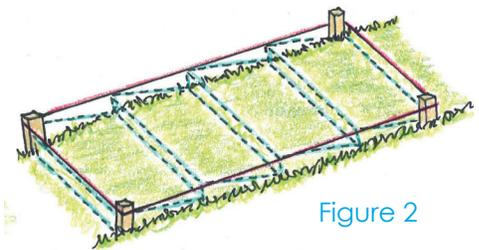

Figure 2
STEP 1. Stake perimeter. Stake out the perimeter of the stairway by driving a stake into the ground at each corner of the stairway and stretching string between them (Figure 2).
STEP 2. Mark areas to be excavated. Determine the areas that need to be excavated for each step. Using a measuring tape and starting from the string at the bottom of the slope, measure and mark the depth of the each step until you reach the string at the top of the slope. Use spray paint, sand, or flour to mark the depth of each step (Figure 2).